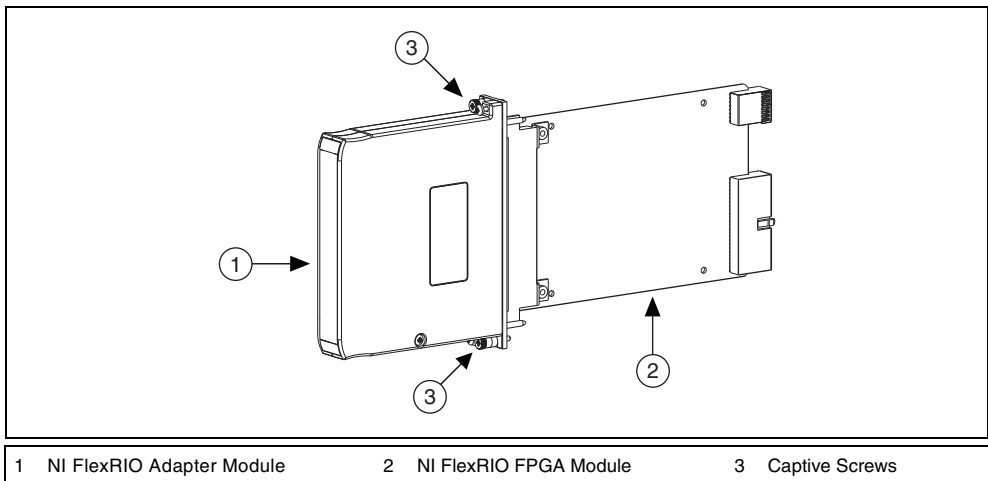

Figure 1. NI FlexRIO Adapter Module and NI FlexRIO FPGA Module
2. Attach the NI FlexRIO adapter module to the NI FlexRIO FPGA module, as shown in Figure 1.